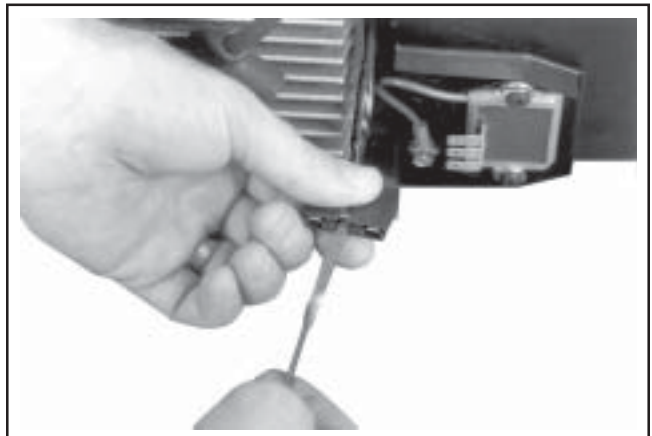

Figure 9-32. Remove B+ Lead from Terminal Plug.
2. Use the tip of the dipstick or a similar small flat tool to bend the locking tang, then remove the B+ (center lead) from the terminal plug as shown in Figure 9-32. This will allow the blower housing to be removed without disturbing the wiring harness.